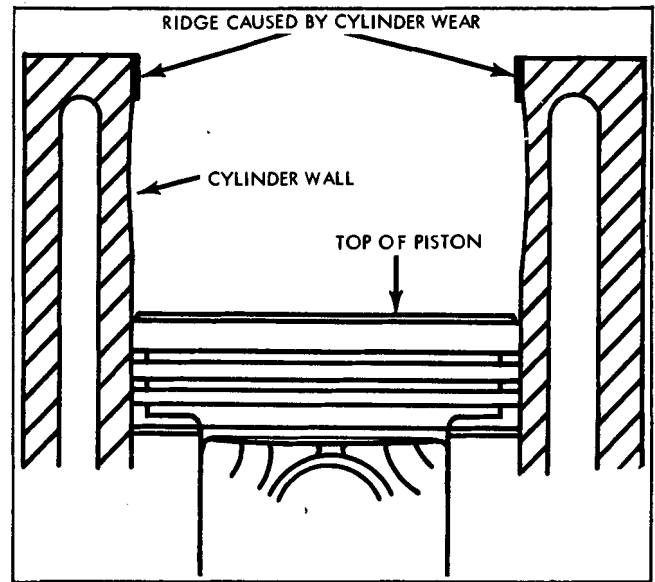

Fig. 6-152 Cylinder Ring Ridge
4. Remove ring ridge (Fig. 6-152) using suitable ring ridge remover.